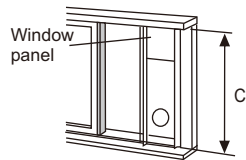

Fig. 13
2. Attach the window slider kit to the window stool. Adjust the length of the window slider kit according to the width of window, shorten the adjustable window kit if the width of window is less than 26.5 (Type I) or 22.1(Type II) inches. Open the window sash and place the window slider kit on the window stool. See Fig.13.